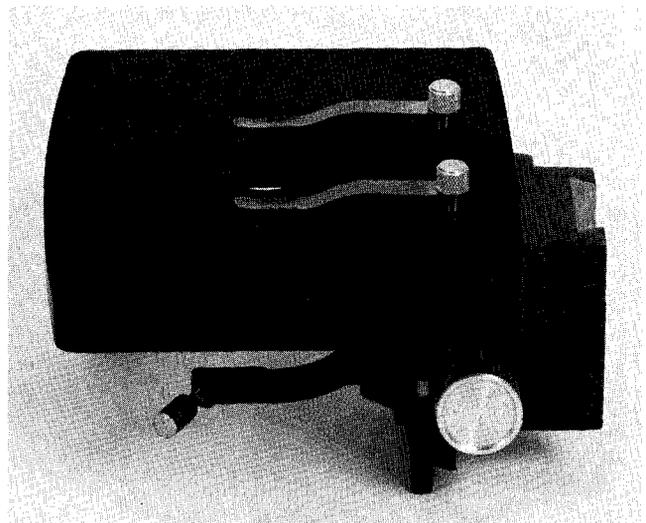

Figure 10. Simple Stage
- (a) Simple Stage: This stage is equipped with two stage clips (Figure 10).